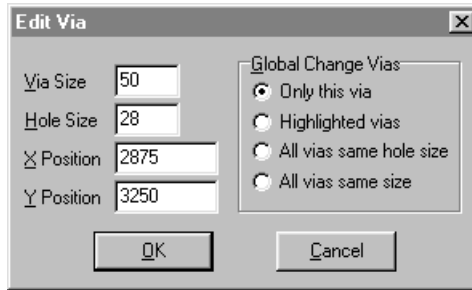

Figure 4.15. The Edit Via dialog box lets you change the attributes of the select via or other related vias.
Use the Edit Via dialog box (see Figure 4.15) to change the via diameter or hole diameter of a via in 1 mil (or .025mm) increments. Changes to either attribute are applied to the selected vias, or globally using the options on the Edit Via dialog box.
- 4 Choose OK, move the cursor to the location where you want to place the text, then click. Figure 4.15 shows some text that was created with the Place Text tool.